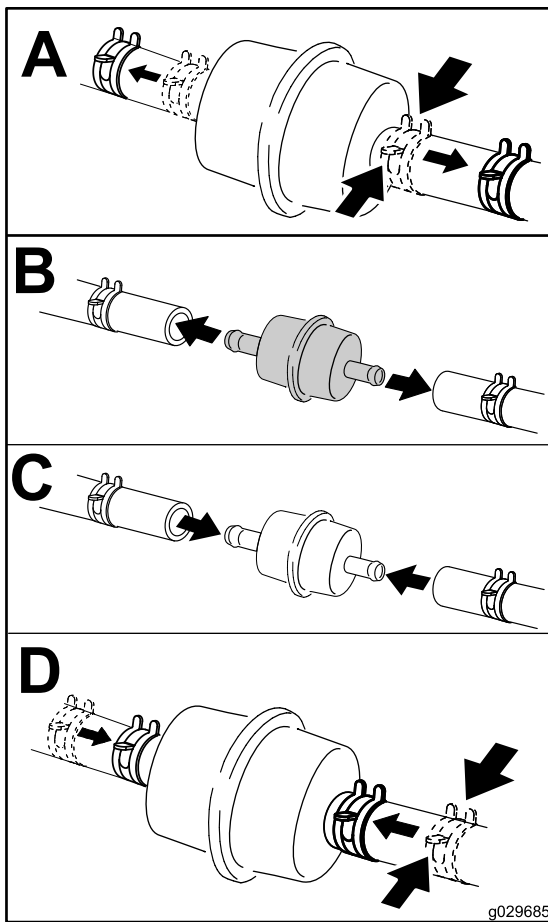

Figure 56
4. Replace the fuel filter (Figure 56).